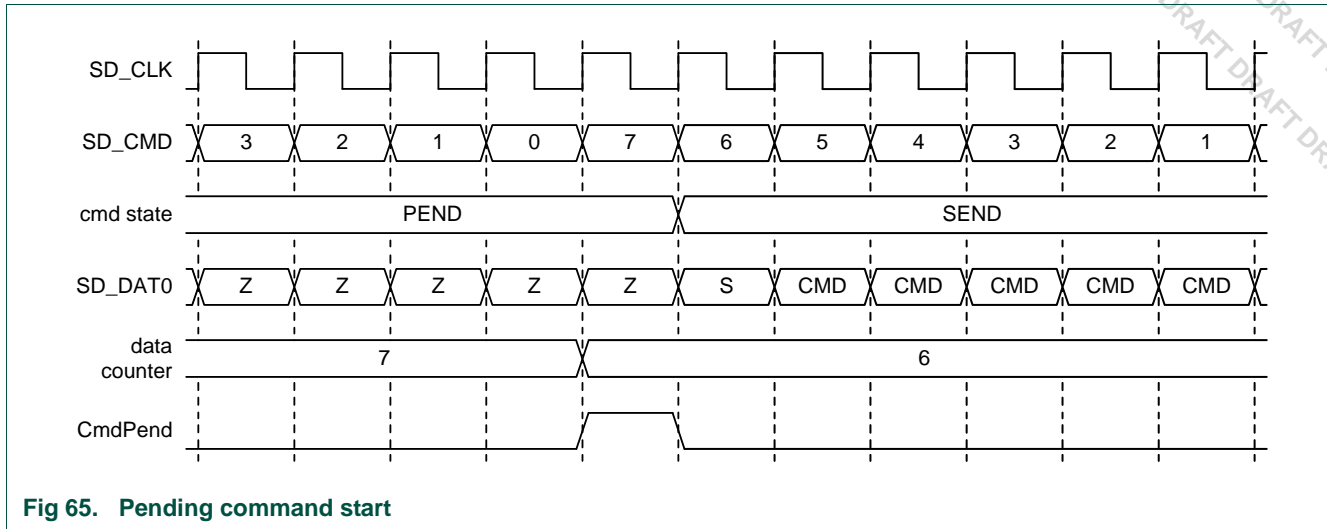

Fig 65. Pending command start
- To start transferring a pending command (see Figure 65). This is used to send the stop command for a stream data transfer.